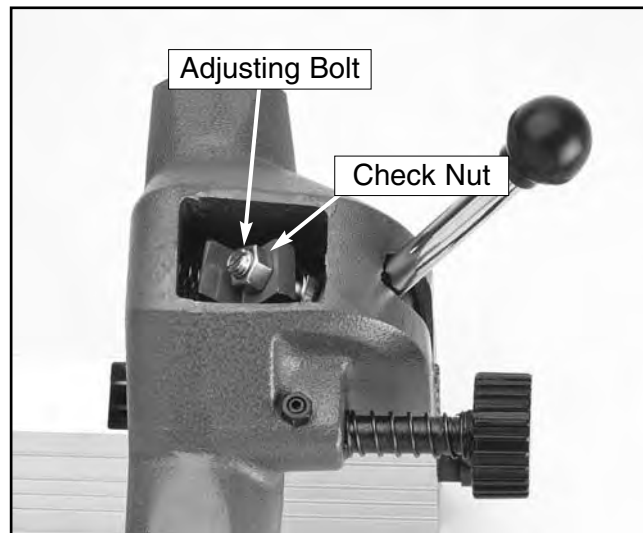

Figure 36B. Adjusting clamp mechanism.
1. First, make sure the front clamp is engaging the front rail with the lock handle at one-half of its throw. If the front clamp requires adjustment, loosen the check nut shown in **Figure 36B**. Turn the adjusting bolt clockwise if the front clamp is too far from the rail, counter-clockwise if it is too close.